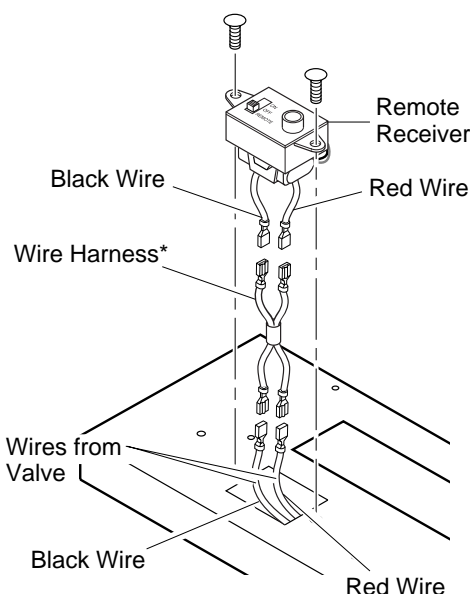

Figure 29 - Installing Remote Receiver
7. Connect wires as shown in Figure 29.
8. Install remote receiver unit onto gas heater base using the two screws removed in step one (see Figure 29).